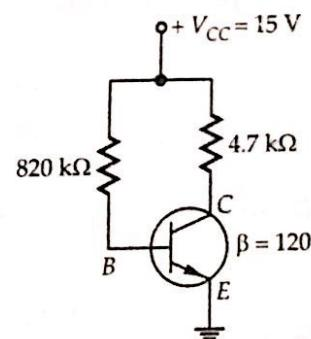

Figure 5.31
**Example 5.14** Draw the dc load line and locate the operating point  $Q$ , for fixed bias circuit shown in Fig. 5.31. What will be stability factor ( $V_{BE} = 0.7 \text{ V}$ )?